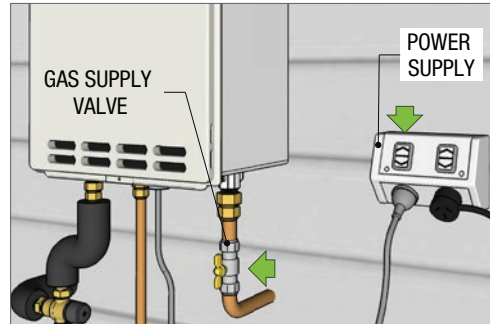

Fig 17
9. Switch ON the power to the gas booster and OPEN the gas supply valve to the gas booster (Fig 17)